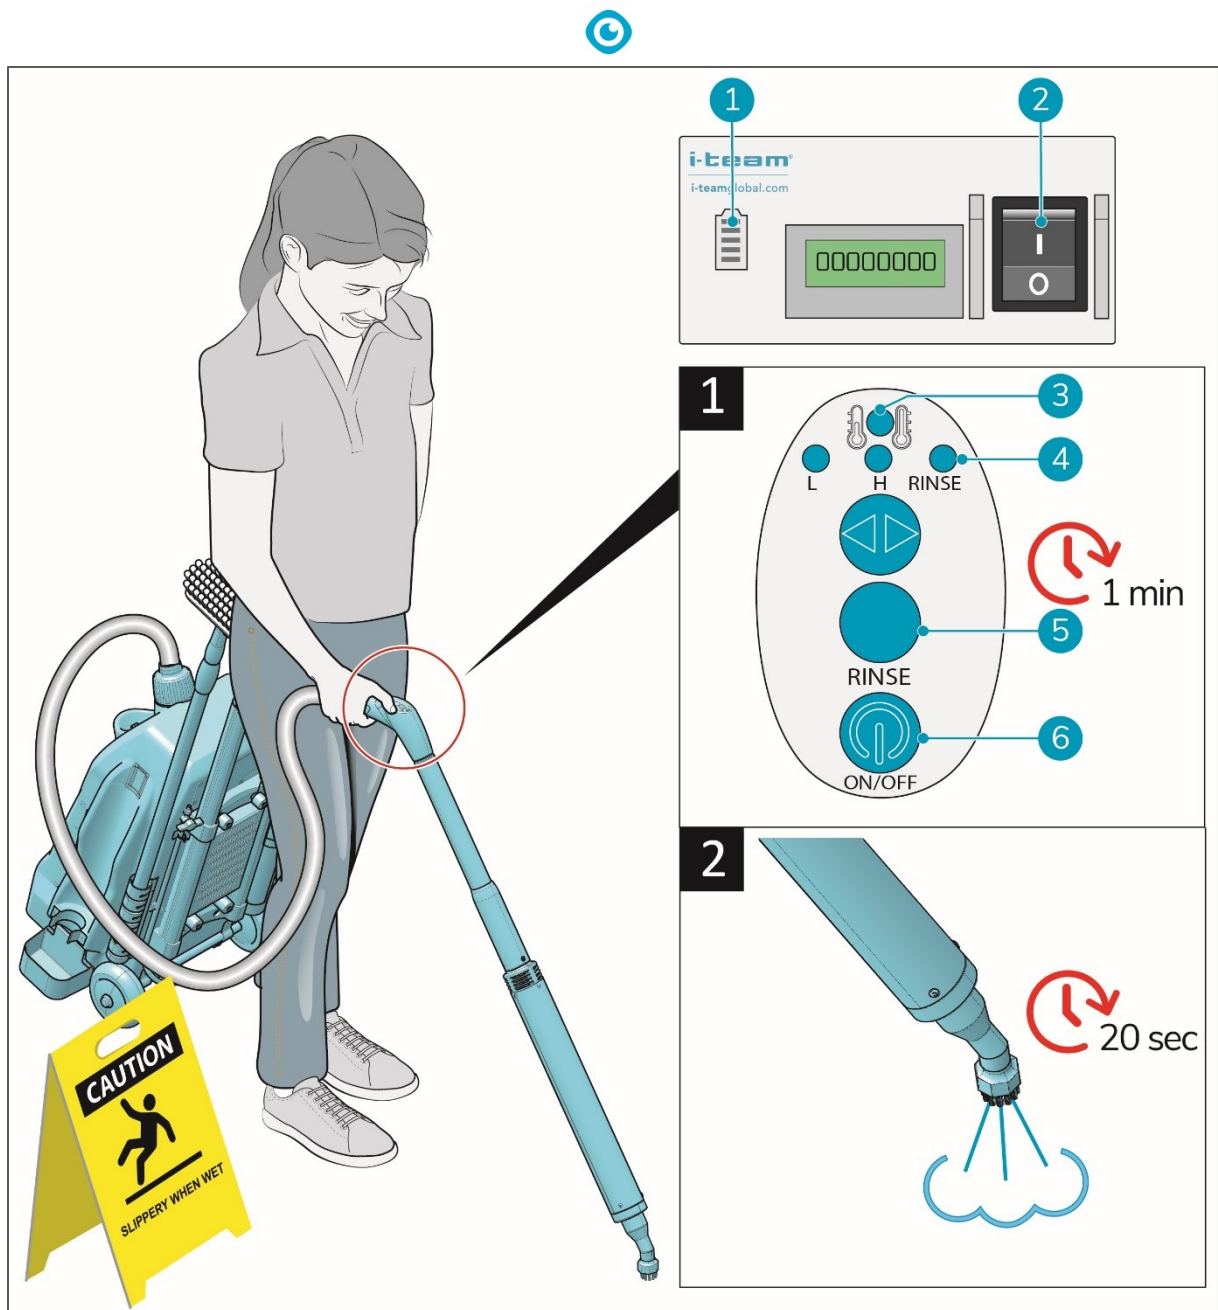

Figure 13
2. When the fluid is low the heater automatically shuts down and the lance starts to cool down. This is indicated by the heater light (fig 13, pos 3) flashing on the control panel.
Turn off the machine via the main power switch (fig 13, pos 2) and refill the gum remover solution tank (see 6.1.2).
1. Turn on the i-gum[®] using the main power switch on the bottom (fig 13, pos 2) left of the body.
2. Check the power indicator (fig 13, pos 1).
4. Press the ON/OFF button (fig 13, pos 6) on the handle control.
5. Press the RINSE button (fig 13, pos 5).
7. Check the rinse indicator light (fig 13, pos 4).
8. Release the RINSE button (fig 13, pos 5) when rinse indicator light is on.
10. Press the ON/OFF button (fig 13, pos 6) on the handle control to turn off the machine, before walking to the jobsite.